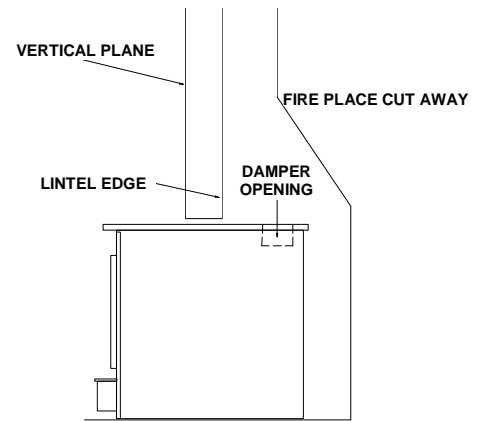

FIGURE 2 POSITIONING
When positioning the heater, the following conditions **MUST** be met! (See Figure 2).
1. The front of the damper opening must be positioned **BEHIND** the rear edge of the lintel to ensure proper draft. (See Figure 2).